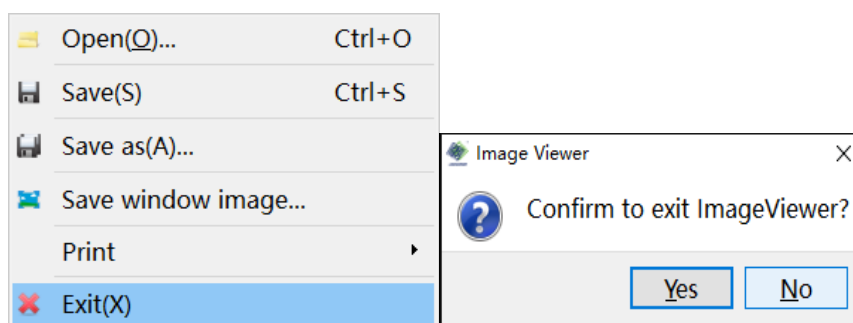

Fig. V-3 "Exit" Menu (left); Dialog Box of Exit Confirmation (right)
- 1) Exit the Application by choosing "File (F)" -> "Exit (X)" in the menu bar (left in Fig. V-3).
No matter which method is used to exit the Application, a dialog box for reconfirmation will pop up before exit to prevent abnormal exit of Application due to user's misoperation (right in Fig. V-3).